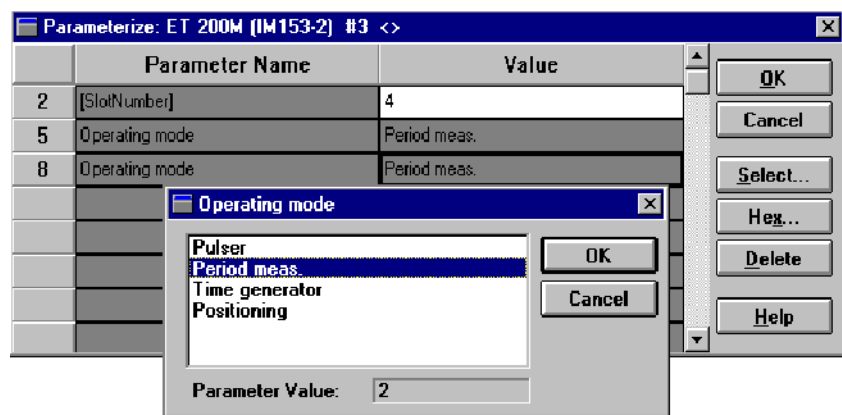

Figure 3-5 Setting the operating mode with COM PROFIBUS
2. In the dialog box "Parameterize...", select the field under "Value" in the first line of the table (5), and click the **Select...** button. In the next dialog box which appears, select the desired operating mode, and confirm with **OK**.
3. Repeat this step in the second line of the table (8) with the same operating mode. See figure 3-5.